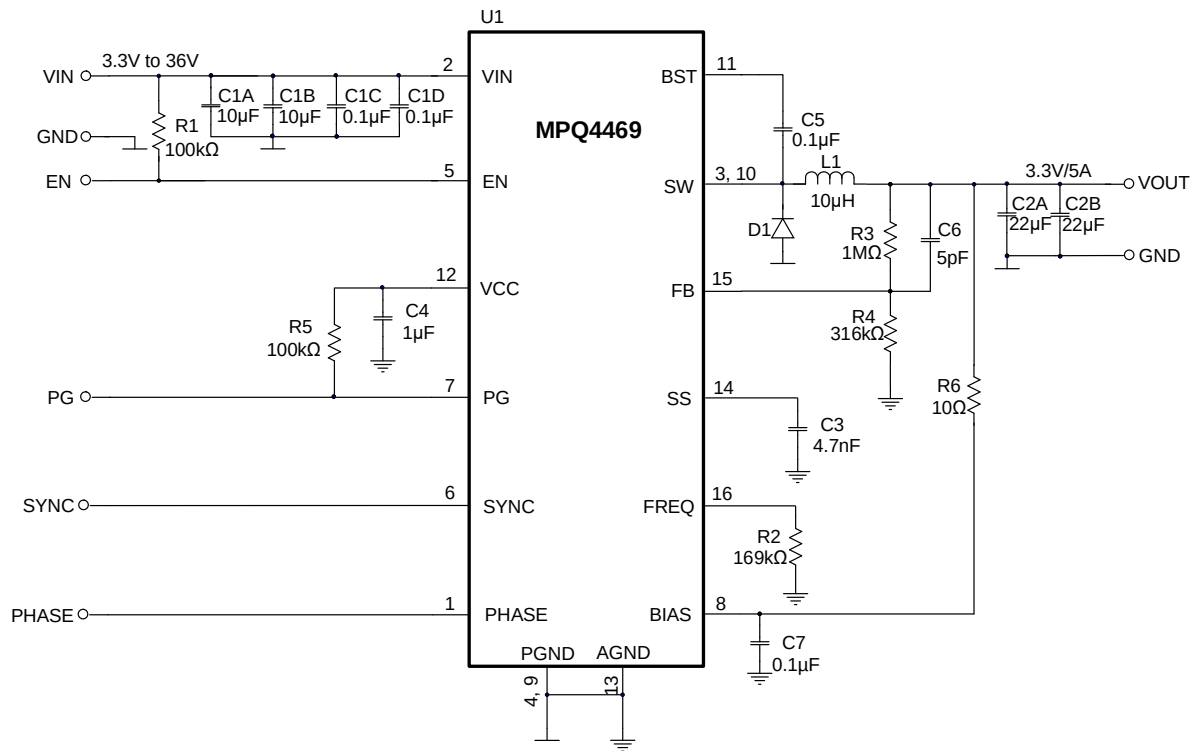

Figure 9: $V_{OUT} = 3.3V$, $f_{SW} = 500kHz$
7) The recommended PCB layout is based on Figure 9.